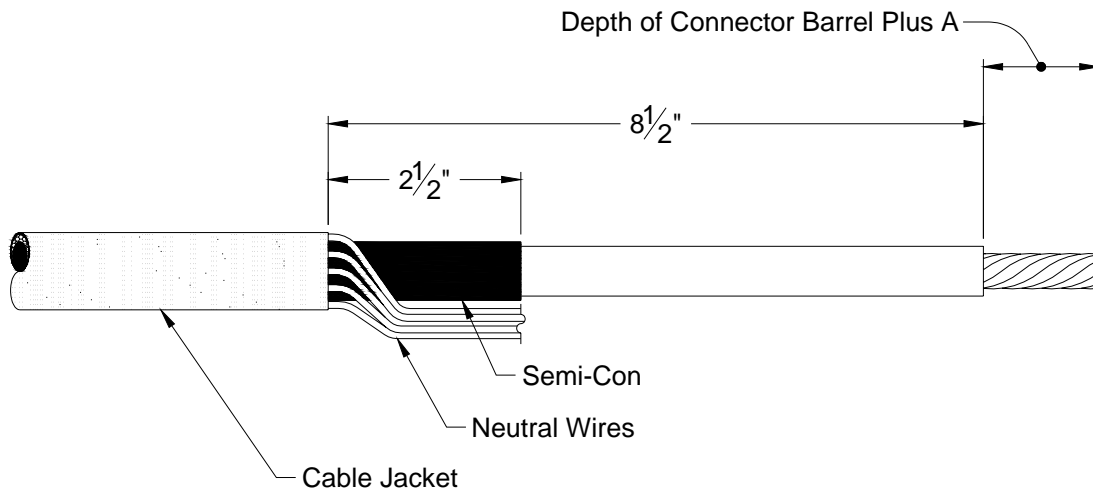

Figure 1 – Prepare Cable
2.2 Prepare cable per Figure 1.